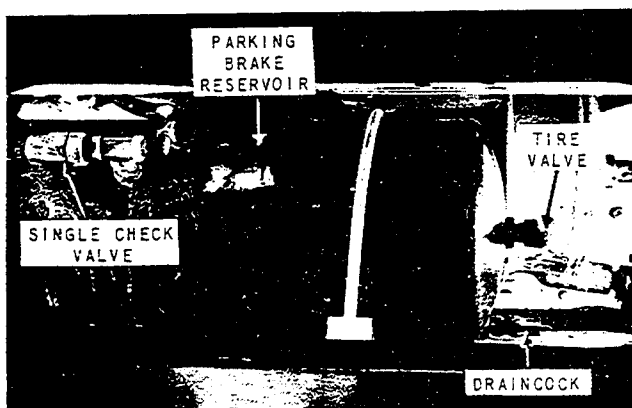

FIGURE 6 - RESERVOIR
6. Remove floor panel from ski compartment above left drive wheel and locate, drill mounting holes and mount new reservoir well forward on panel to permit access to drain cock on inboard reservoir. Install fittings, check valve, tire valve, and drain cock as shown in schematic drawing. Reinstall panel and reservoir in coach. (Figure 6).